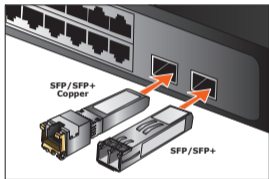

Figure 1: Inserting the SFP/SFP+ Mini-GBIC Module
1. Power on the Switch and place the Switch on a flat surface. Install the new SFP/SFP+ Mini-GBIC module by inserting it into the slot and sliding it in until it stops (See **Figure 1**). Press it firmly until you hear the module snap into place. Never force, twist or bend the SFP/SFP+ Mini-GBIC module. The SFP/SFP+ Mini-GBIC module slides in smoothly and the Switch will automatically detect the new module.